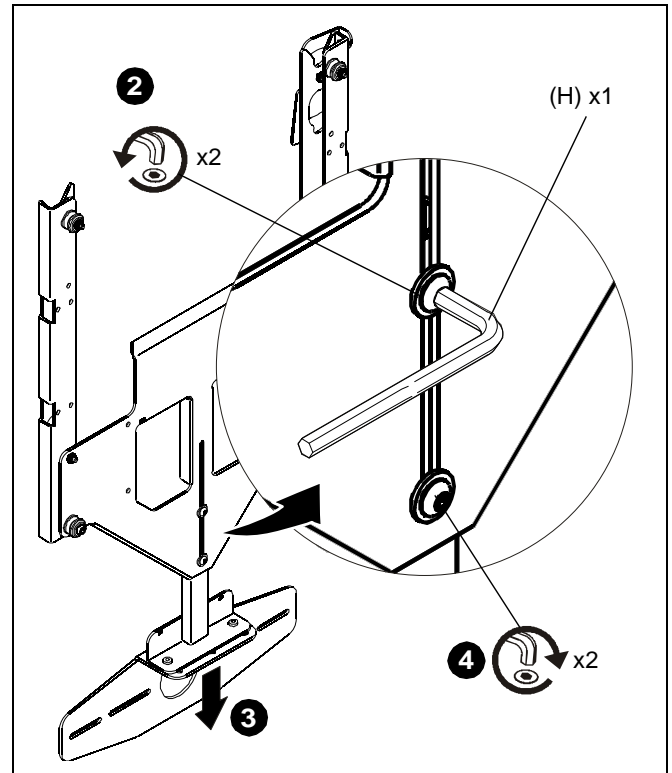

Figure 2
2. Loosen two button head cap screws securing speaker mounting bracket to support plate using 1/8" hex wrench (H). (See Figure 2)
4. Tighten two button head cap screws securing speaker mounting bracket to support plate using 1/8" hex wrench (H). (See Figure 2)